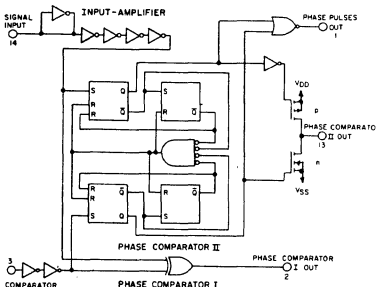
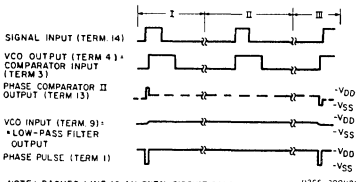
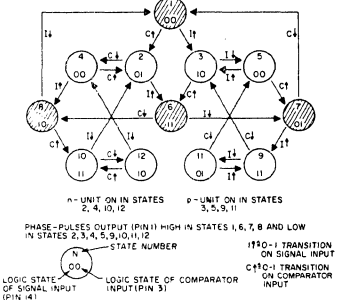

Fig. 3—Schematic of COS/MOS PLL phase-comparator section.
Fig. 6 - Typical waveforms for COS/MOS phase-locked loop employing phase-comparator II in locked condition.
Fig. 7 - State diagram of phase-comparator II.
Most PLL systems utilize a balanced mixer composed of well-controlled analog amplifiers for the phase-comparator section. Analog amplifiers with well-controlled gain characteristics cannot easily be realized using COS/MOS technology. Hence, the COS/MOS design shown in Fig. 3 employs digital-type phase comparators. Both phase comparators are driven by a common-input amplifier configuration composed of a bias stage and four inverting-amplifier stages. The phase-comparator signal input (terminal 14) can be direct-coupled provided the signal swing is within COS/MOS logic levels [logic 0 \leq 30% (VDD-VSS), logic 1 \geq 70% (VDD-VSS)]. For smaller input signal swings, the signal must be capacitively coupled to the self-biasing amplifier at the signal input to insure an over-driven digital signal into the phase comparators.
Phase-comparator II is an edge-controlled digital memory network. It consists of four flip-flop stages, control gating, and a three-state output circuit comprising p and n drivers having a common output node as shown in Fig. 3. When the p-MOS or n-MOS drivers are ON, they pull the output up to V_{DD} or down to V_{SS} , respectively. This type of phase comparator acts only on the positive edges of the signal and comparator-input signals. The duty cycles of the signal and comparator inputs are not important since positive transitions control the PLL system utilizing this type of comparator. If the signal-input frequency is higher than the comparator-input frequency, the p-MOS output driver is maintained ON continuously. If the signal-input frequency is lower than the comparator-input frequency, the n-MOS output driver is maintained ON continuously. If the signal and comparator-input frequencies are the same, but the signal input lags the comparator input in phase, the n-MOS output driver is maintained ON for a time corresponding to the phase difference. If the signal and comparator-input frequencies are the same, but the signal input leads the comparator input in phase, the p-MOS output driver is maintained ON for time corresponding to the phase difference. Subsequently, the capacitor voltage of the low-pass filter connected to this type of phase comparator is adjusted until the signal and comparator inputs are equal in both phase and frequency. At this stable operating point, both p- and n-MOS output drivers remain OFF, and thus the phase-comparator output becomes an open circuit and holds the voltage on the capacitor of the low-pass filter constant. Moreover, the signal at the "phase pulses" output is at a high level, and can be used for indicating a locked condition. Thus, for phase-comparator II, no phase difference exists between signal and comparator input over the full VCO frequency range. Moreover, the power dissipation due to the low-pass filter is reduced when this type of phase comparator is used because both the p- and n-MOS output drivers are OFF for most of the signal-input cycle. It should be noted that the PLL lock range for this type of phase comparator is equal to the capture range, independent of the low-pass filter. With no signal present at the signal input, the VCO is adjusted to its lowest frequency for phase-comparator II. Fig. 6 shows typical waveforms for a COS/MOS PLL employing phase-comparator II in a locked condition.
Fig. 7 shows the state diagram for phase-comparator II; each circle represents a state of the comparator. The number at the top inside each circle represents the state of the comparator, while the logic state of the signal and comparator inputs, represented by a 0 or a 1, are given by the left and right numbers, respectively, at the bottom of each circle. The transitions from one state to another result from either a logic change on the signal input (I) or the comparator input (C). A positive transition and a negative transition are shown by an arrow pointing up or down, respectively. The state diagram assumes that only one transition on either the signal input or the comparator input occurs at any instant. States 3, 5, 9, and 11 represent the condition at the output of phase-comparator II when the p-MOS driver is ON, while states 2, 4, 10, and 12 determine the condition when the n-MOS driver is ON. States 1, 6, 7, and 8 represent the condition when the output of phase-comparator II is in its high impedance state; i.e., both p- and n-devices are OFF, and the phase-pulses output (terminal 1) is high. The condition at the phase-pulses output for all other states is low.
As an example of how one may use the state diagram shown in Fig. 7, consider the operation of phase-comparator II in the locked condition shown in Fig. 6. The waveforms shown in Fig. 6 are broken up into three sections: section I corresponds to the condition in which the signal input leads the comparator input in phase, while section II corresponds to a finite phase difference. Section III depicts the condition when the comparator input leads the signal input in phase. These three sections all correspond to a locked condition for the COS/MOS PLL; i.e., both signal- and comparator-input signals are of the same frequency but differ slightly in phase. Assume that both the signal inputs begin in the 0 state, and that phase-comparator II is initially in its high-impedance output condition (state 1), as shown in Figs. 7 and 6, respectively. The signal input makes a positive transition